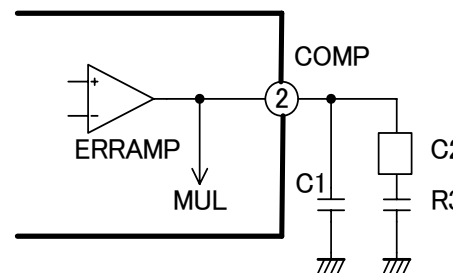

Fig.6 COMP pin circuit
- Connect C and R between COMP and GND as shown in Fig. 6.